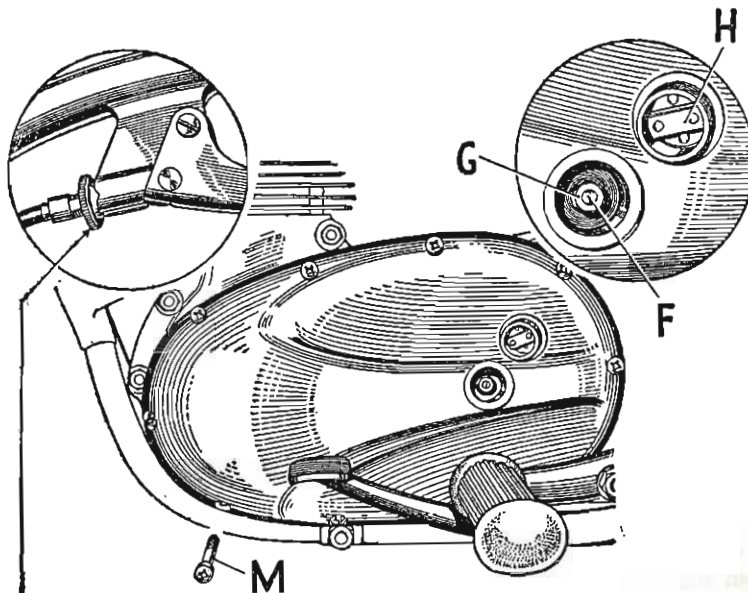

FIG. C5A. Clutch adjustment.
Place a large flat tin under the primary chaincase to catch the oil, and take out the 10 screws holding the cover. The screws are of three different lengths and careful note should be taken of their respective positions to facilitate refitting, screw (M) Fig. C5A also serves as the level plug.